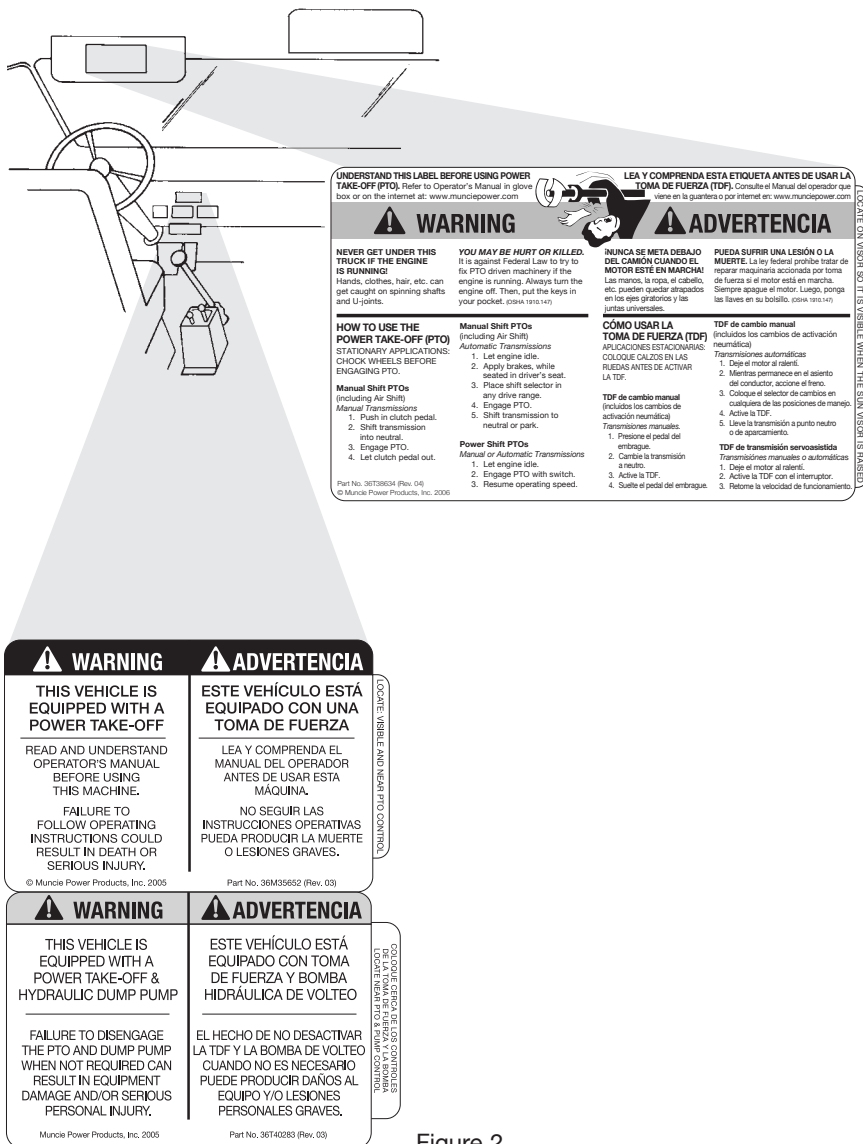

Figure 2
2. The 2" x 3" PTO Equipped Caution Label is to be placed within the cab of the vehicle and in easy view of the vehicle operator. It should be located near the PTO control, when the control is installed in the vehicle dash. See Figure 2. This label directs the operator to read the PTO operating instructions on the "Visor Label". The Visor Label 4" x 6½" is to be placed on the visor on the operator's side of the vehicle. See Figure 2. Do not mount this label on the same side of the visor as the air bag warning label if so equipped. Vehicles with hydraulic dump pumps are supplied with a Warning label to be mounted in clear view of the operator while seated in the driver's seat.